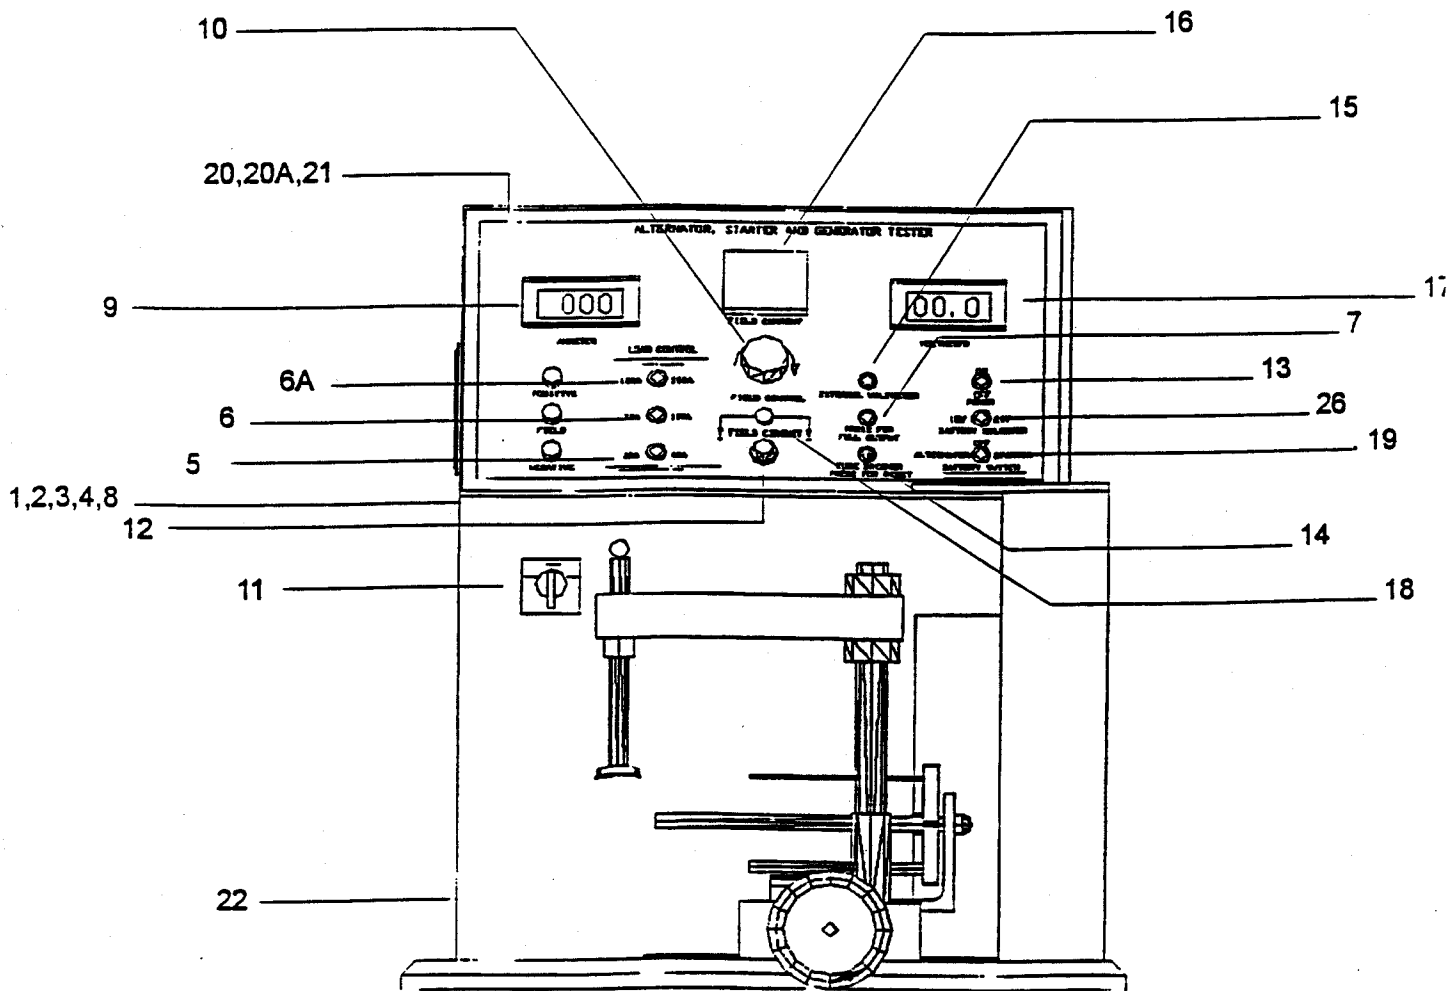

FIGURE 1
*****PLEASE REFER TO FIGURE 1, ABOVE*****